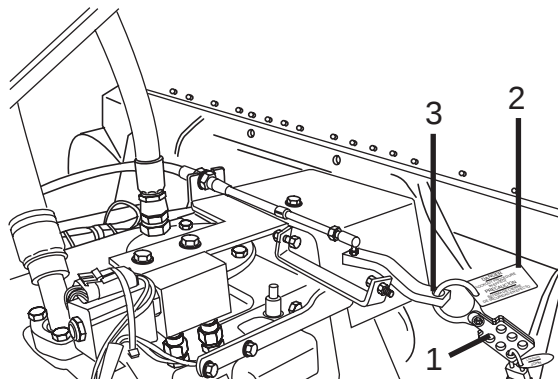

Figure 9
14. Install a safety lock-out hasp (Figure 9, Item 1) and red-and-white “Danger: Lock-Out Procedure in Effect” tag (Figure 9, Item 2) in the splined hole in the pump control lever (Figure 9, Item 3).